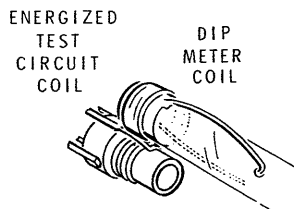

Figure 2-4
6. Closely couple the Dip Meter coil to the test circuit as shown in Figure 2-4.